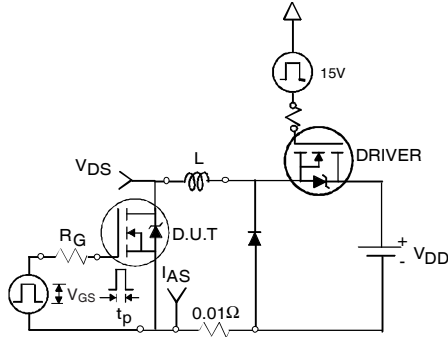

Fig 12a. Unclamped Inductive Test Circuit
- ④ Pulse width $\leq 400\mu s$; duty cycle $\leq 2\%$.
- ⑤ $C_{oss \text{ eff.}}$ is a fixed capacitance that gives the same charging time as C_{oss} while V_{DS} is rising from 0 to 80% V_{DSS} .
- ⑥ Limited by T_{Jmax} , see Fig.12a, 12b, 15, 16 for typical repetitive avalanche performance.
- ⑦ This value determined from sample failure population. 100% tested to this value in production.
3. Equation below based on circuit and waveforms shown in Figures 12a, 12b.